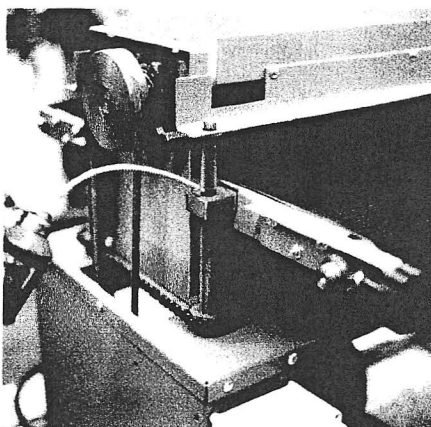

Fig. B-2
1. Oil corner screw & crank screw with 2 - 4 drops at the top and bottom wear washers, and where the screws go through the table, as required for ease of turning the crank handle (see fig. B-2).